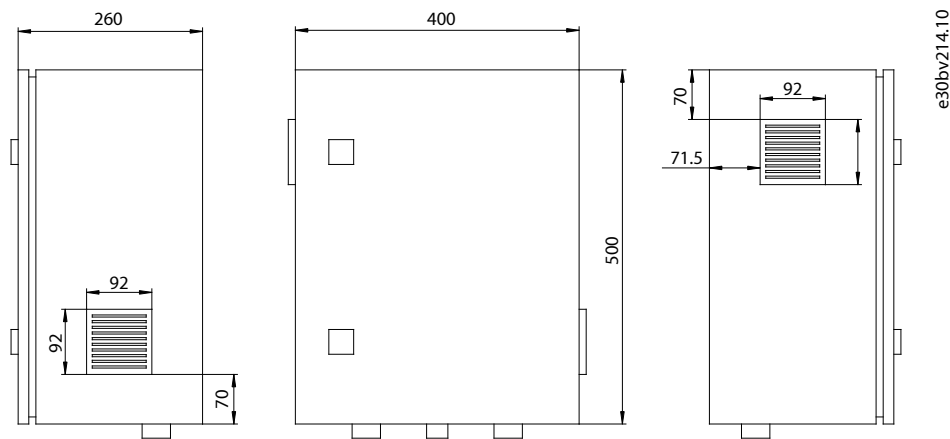
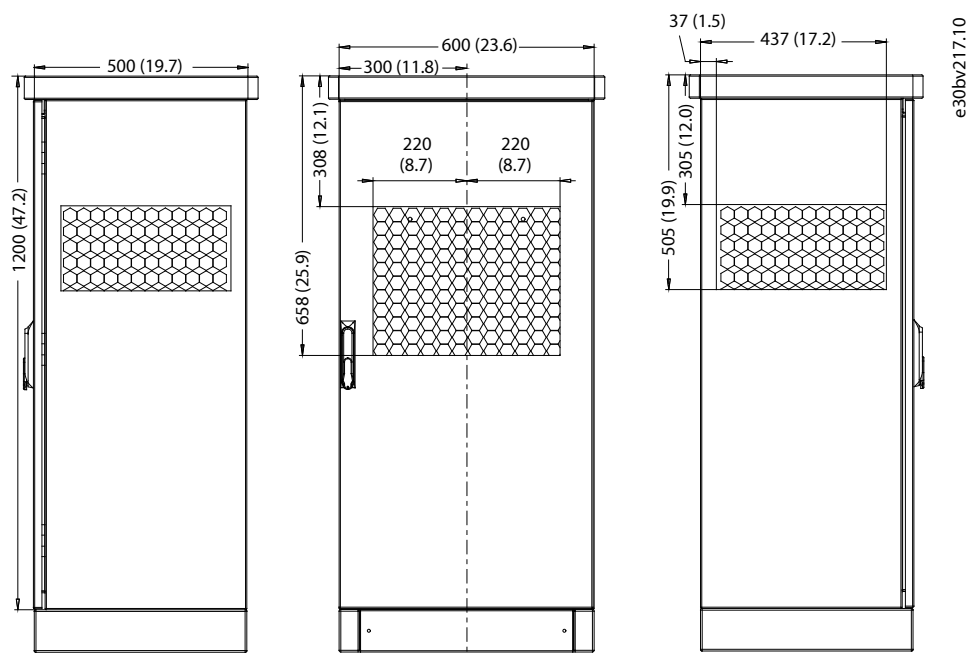

Figure 69: Allowed Ventilation Openings for H1–H3 Enclosures as Tested for UL61800-5-1 Compliance
Figure 72: Allowed Ventilation Openings for H8 Enclosures as Tested for UL61800-5-1 Compliance
3) H1–H8 drives meet UL 61800-5-1 certification based on the drive being mounted within a larger enclosure (approximately 1.5x the drive) and being centered on the back panel of the larger enclosure. See Figure 69 to Figure 72 for dimensions and allowed vent openings and cable entry points for the tested units. To maintain UL 61800-5-1 certification and to provide the required shielding for vented enclosures, ensure that the spatial relationship between the drive and the vent openings in the larger enclosure is maintained, at a minimum. Larger enclosures can use greater distances to openings. For more information, contact Danfoss support.